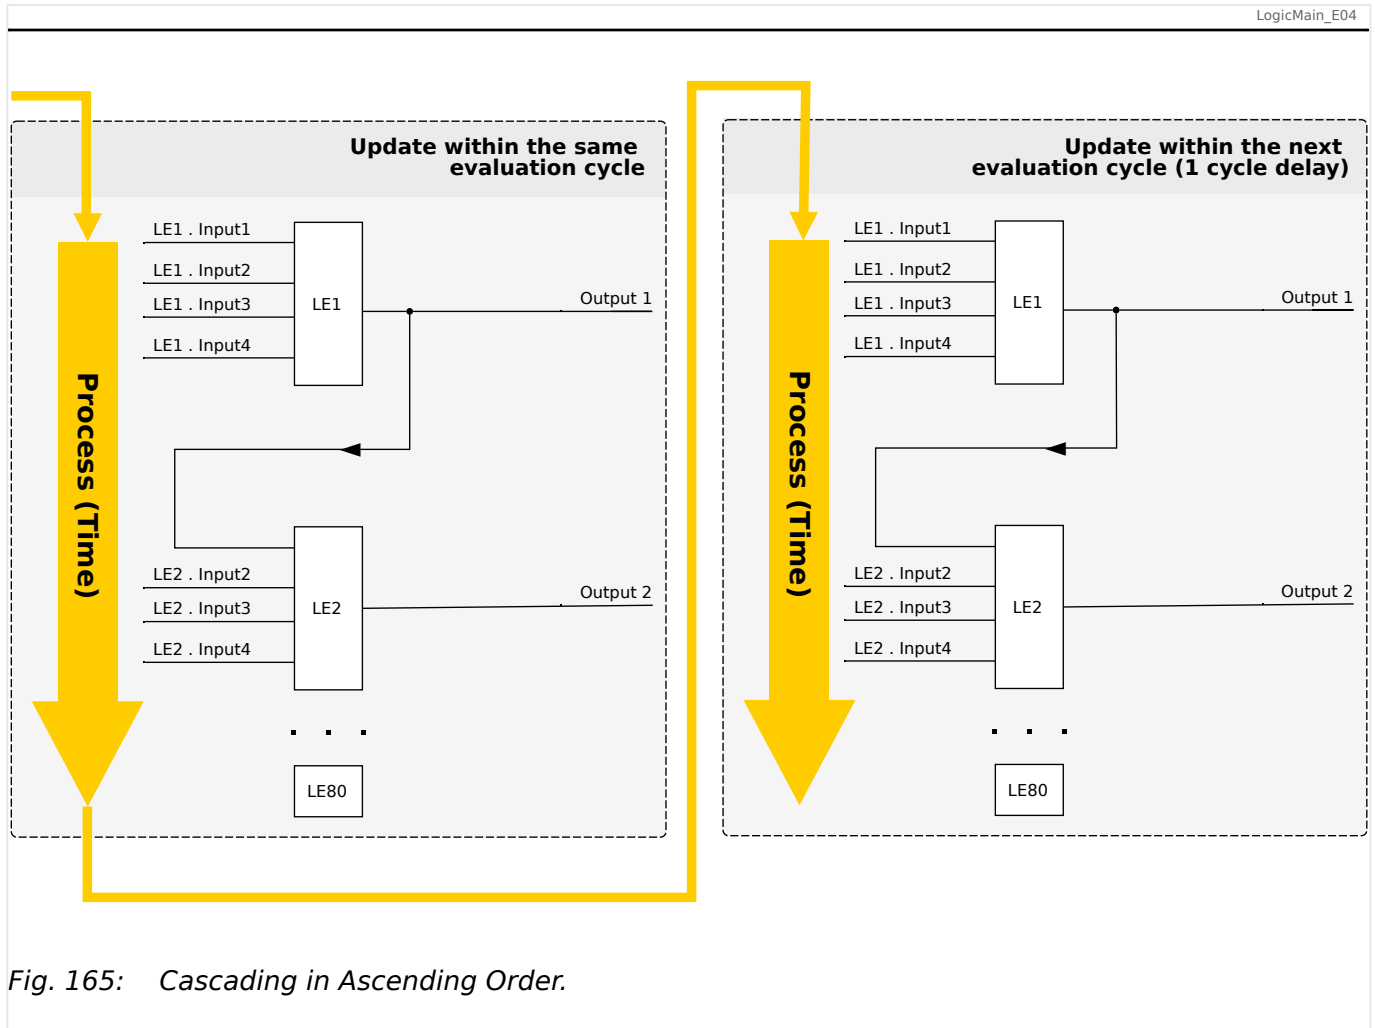
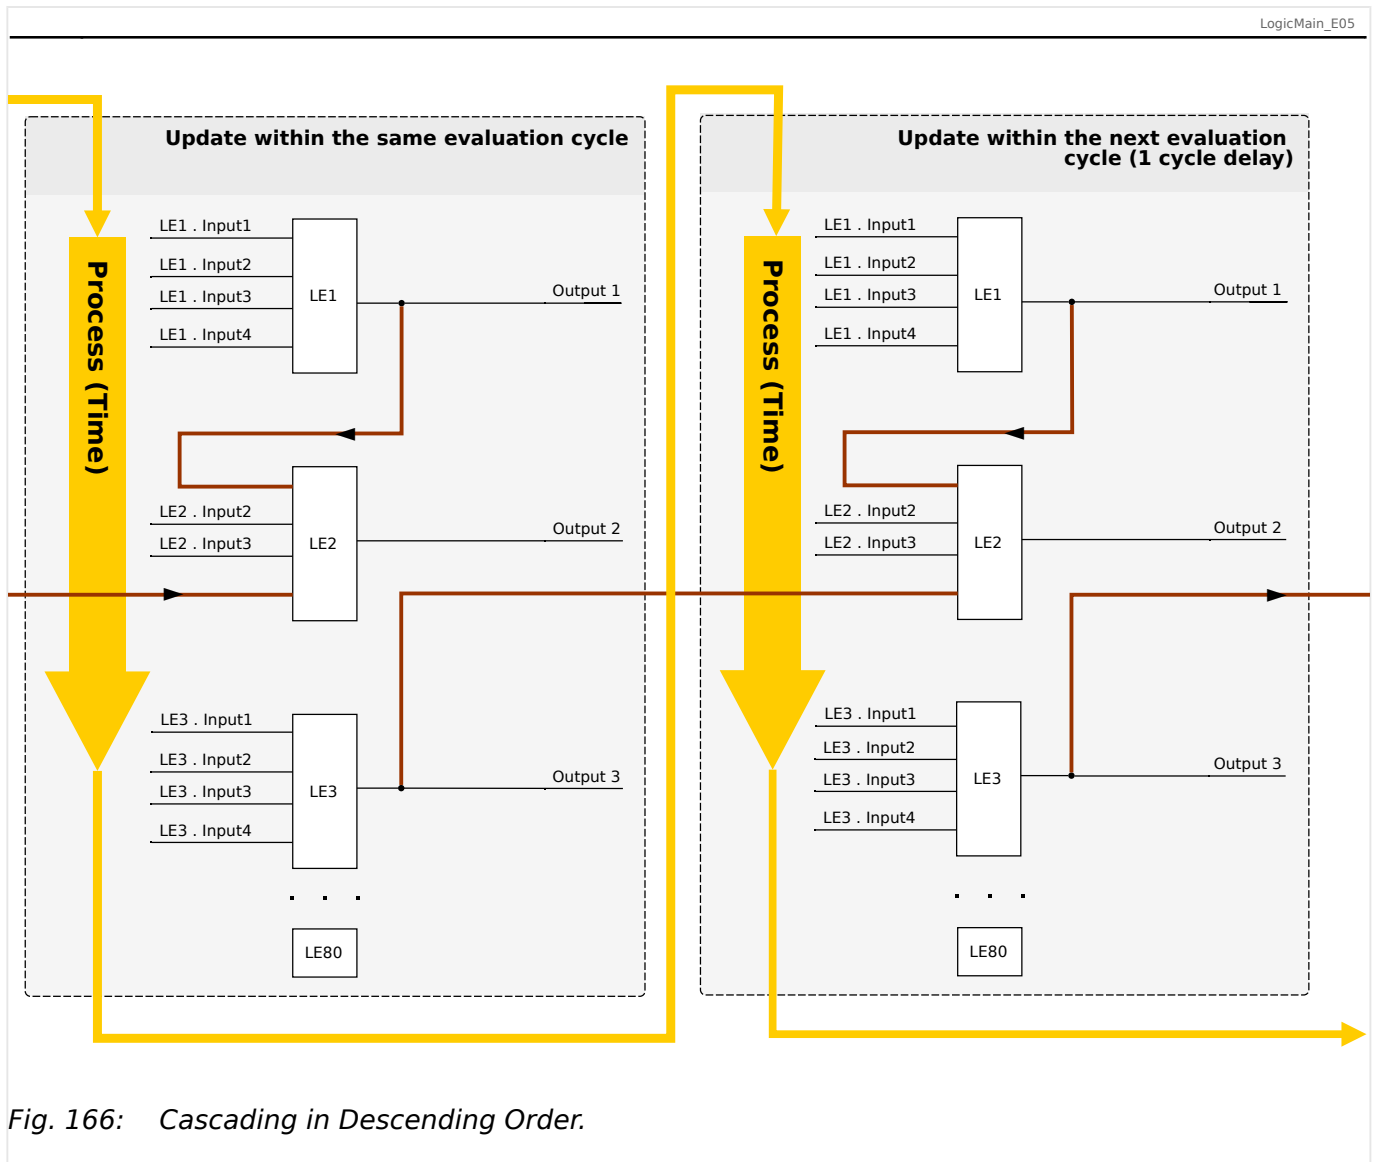

Fig. 165: Cascading in Ascending Order.
Fig. 166: Cascading in Descending Order.
- **Ascending** sequence means that some output is fed into the input of a logic equation with **higher** number. For instance, diagram  Fig. 165 below shows an example where the result of Logic Equation LE1 is used as an input of Logic Equation LE2.
- **Descending** sequence means that some output is fed into the input of a logic equation with **lower** number. For instance, diagram  Fig. 166 shows an example where the result of Logic Equation LE3 is used as an input of Logic Equation LE2.
Both ascending and descending sequences may be used and combined one with the other, with no immediate difference. However, due to the evaluation of all equations in ascending order the actual run-time values that are fed in at the input of an equation will have a different “age”, as is shown in  Fig. 165 and  Fig. 166 below.
In the example shown in Fig. 166 above, "Logic Equation 2" uses the output states of two other equations, "Logic Equation 1" and "Logic Equation 3". The result of "Logic Equation 1" is used in ascending order and has therefore been evaluated within the same process cycle. The result of "Logic Equation 3" is used in descending order and has therefore been evaluated in the previous process cycle.